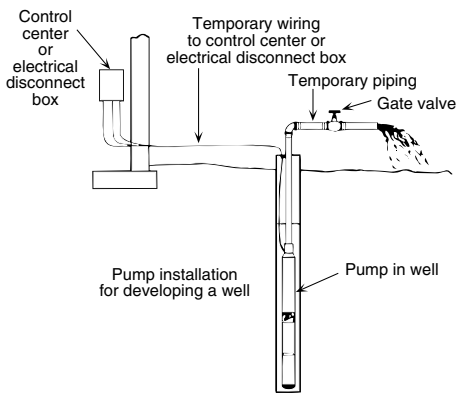

Figure 12 – Typical pump start-up
1. Connect a pipe elbow, a short length of pipe and a gate valve to pump discharge at well head (see Figure 12).
5. Set gate valve on discharge 1/3 open; start pump (see Figure 12).